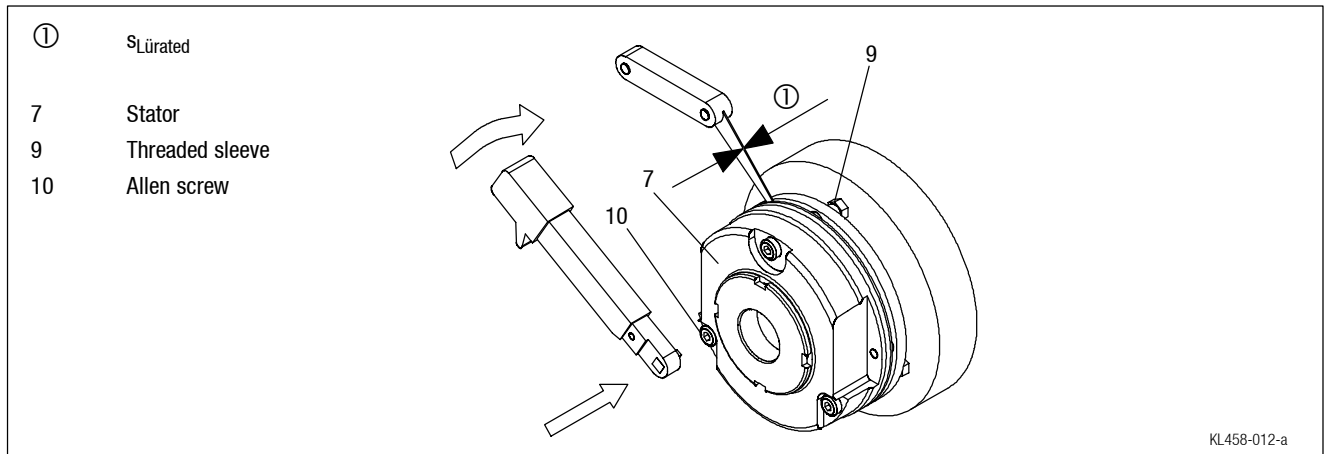

Fig. 8
6. Tighten the screws (10) evenly (for torques see rated data table chapter 3.3 and Fig. 8).
7. Check the air gap  $s_{Lürated}$  near the bolts (10) by means of the thickness gauge ( $s_{Lürated}$  see rated data table chapter 3.3 and Fig. 8).